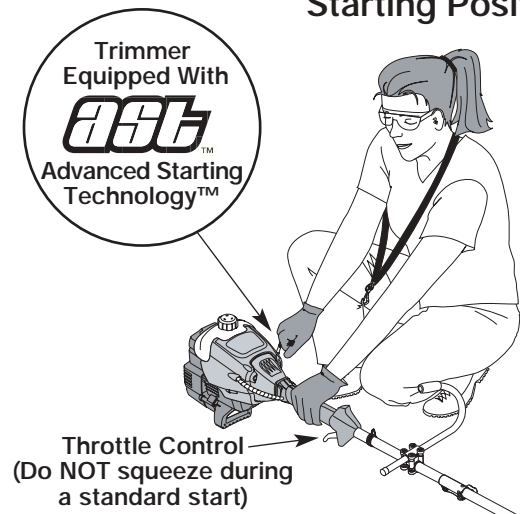

Fig. 18
WARNING: Avoid accidental starting. Make sure you are in the starting position when pulling the starter rope (Fig. 18). To avoid serious injury, the operator and unit must be in a stable position while starting. To avoid serious personal injury, ensure any Add-On being used is installed correctly and secure before starting the unit.
5. Crouch in the starting position and **do not squeeze the throttle control** (Fig. 18). Pull the starter rope out with a **controlled and steady motion** until the engine attempts to start. Repeat until the engine starts.